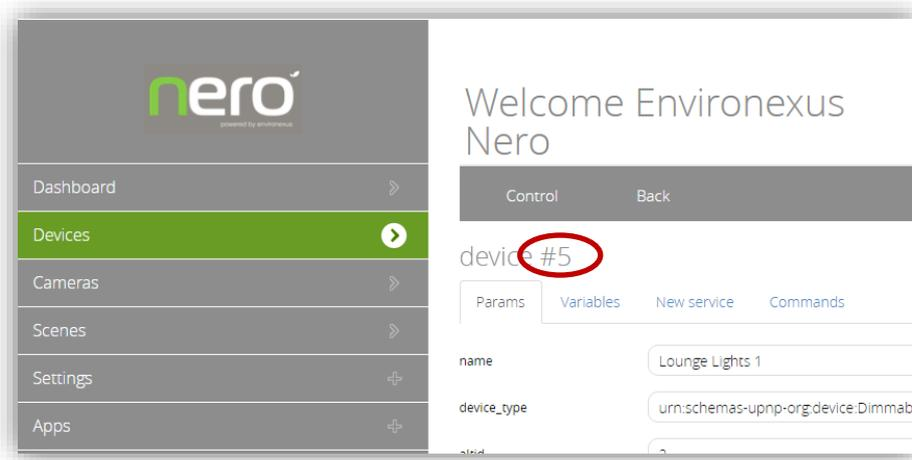

Figure 6 - Highlighting the device number required to integrate with Push, accessible under Advanced tab of device properties
- Nero Device Number: The device number of the Nero device you wish to control, this can be found in the settings tab of the device properties panel in the Nero online manager (see Figure 6)